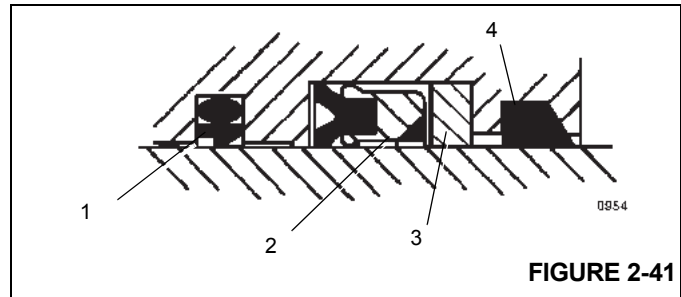

FIGURE 2-41
5. Install the wiper ring, backup ring, deep Z rod seal, buffer seal assembly, and wear rings into the inside of the cylinder head Figure 2-41.